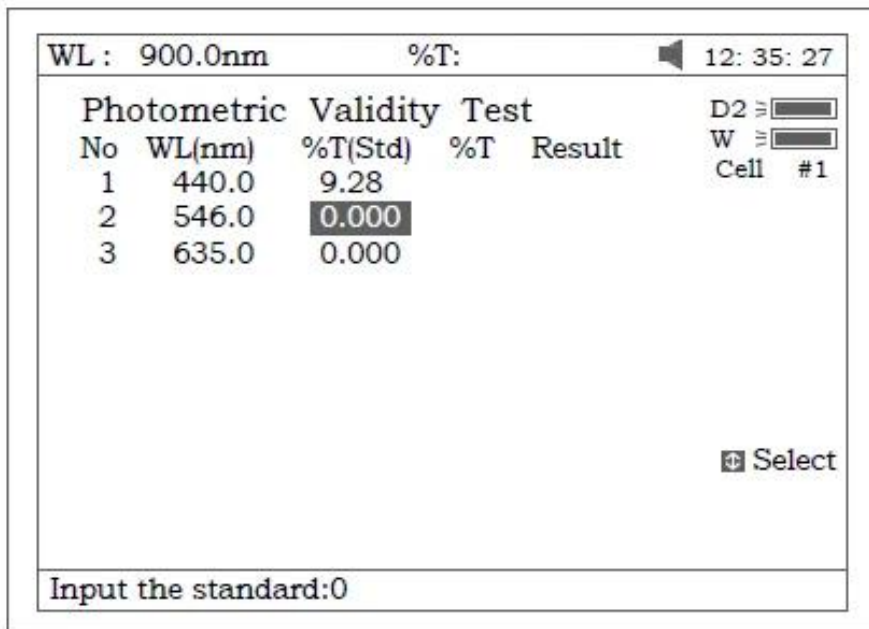

Figure 91
2. Press **【F1】** to set the standard value, Press **【ENTER】** to edit and input by pressing the numeric keypad (Fig 91). **【ESC/STOP】** to finish inputting and exit.